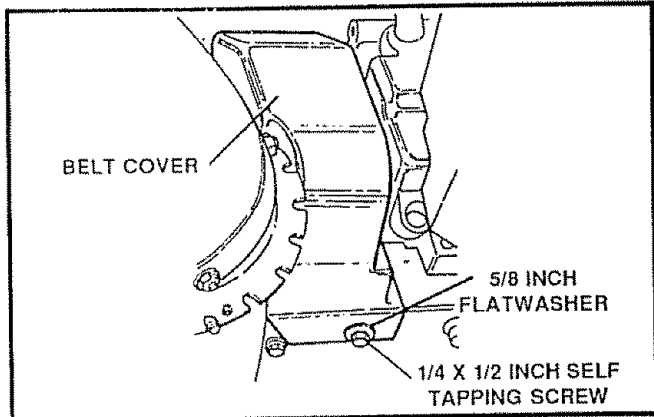

FIG. 27
Remove the belt cover (See Fig. 27, page 19)
- Remove the belt cover (See Fig. 27)
- ▶ Remove the belt cover by removing the screw and flatwasher on the left and right hand sides. See Fig 27 page 19.